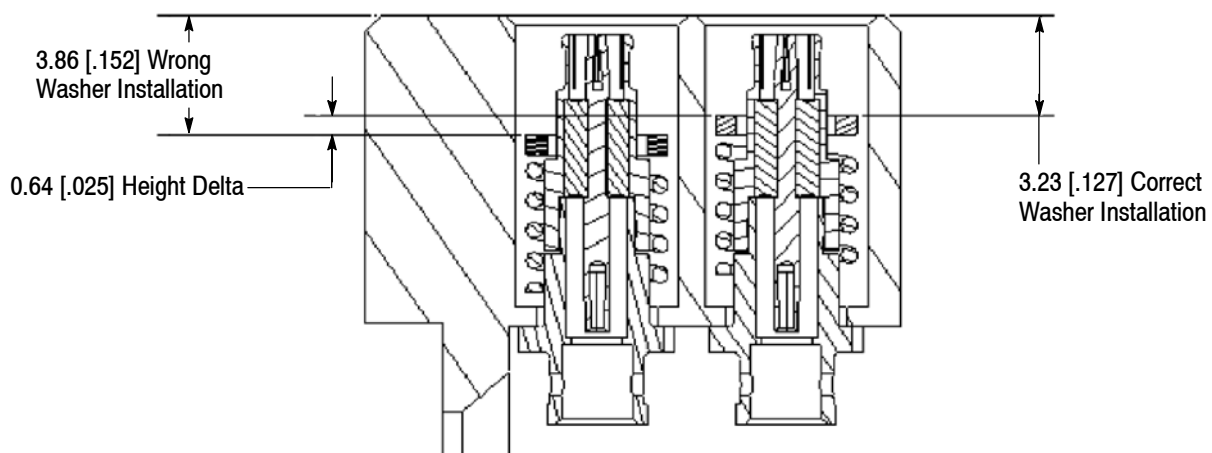

Figure 6
dimension of 3.22 mm [.127 in.] from front of module. See Figure 6.
- Added new Figure 6